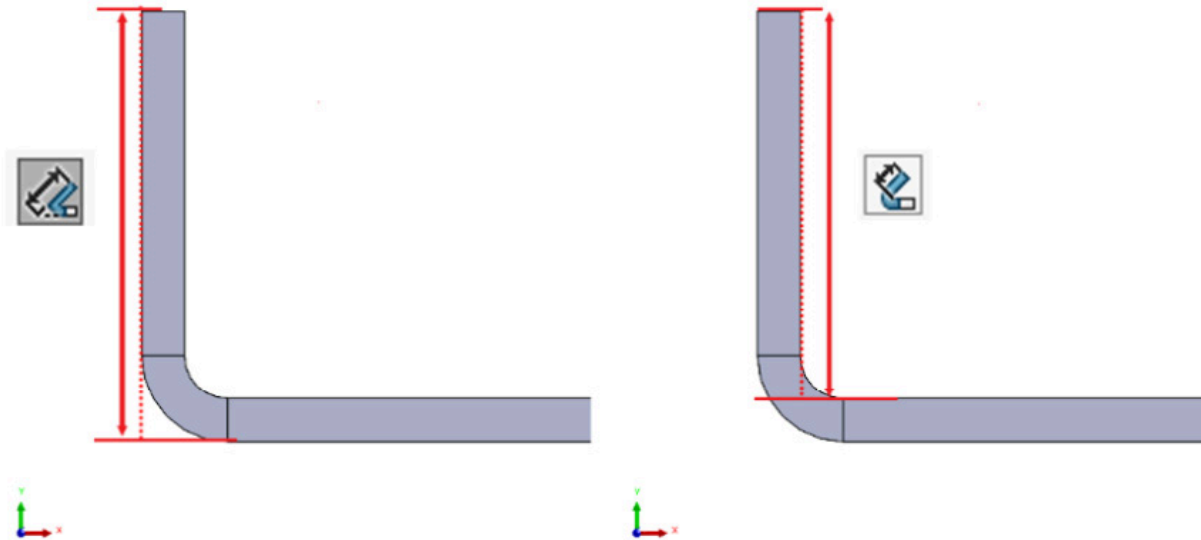

Figure 2.7: Outer and Inner Virtual Sharp examples
- **Outer Virtual Sharp:** This measures the length of the flange from the point where a sharp corner would be if an imaginary line was drawn down the outer face of the Edge Flange and along from the bottom of the fixed flange (the left example in *Figure 2.7*).
- **Inner Virtual Sharp:** This is similar to the first option, but instead it measures the Flange Length from where a sharp corner would be to the inner face of the fixed flange (the right example in *Figure 2.7*).